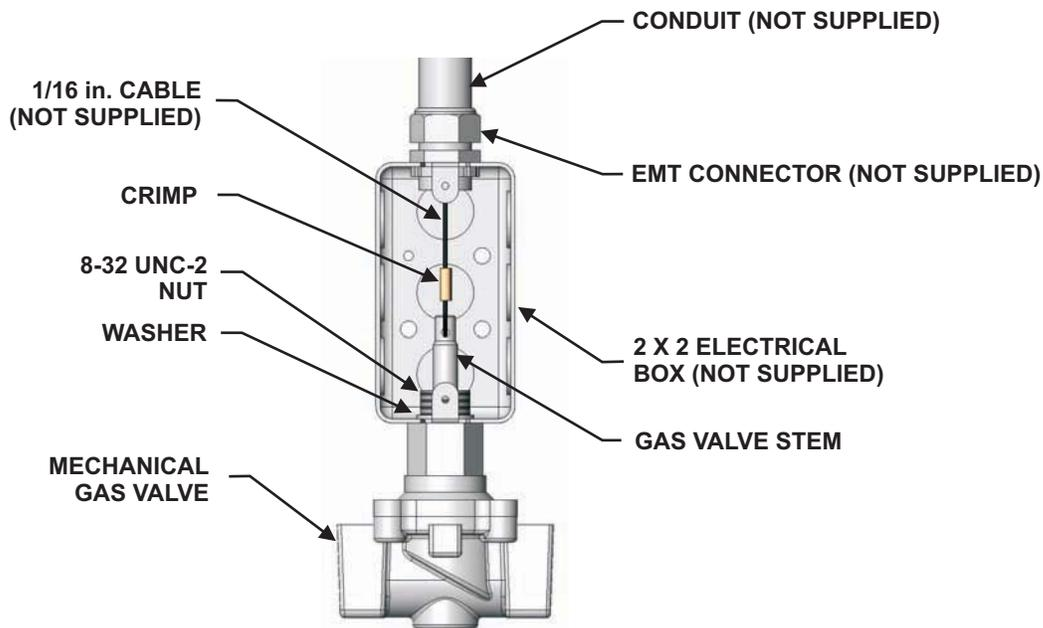

Figure 4-46. Installing Mechanical Gas Valve
2. Remove top and bottom knockouts from the 2x2 electrical box. Install 1/2-inch (13 mm) EMT to top hole of the electrical box (see Figure 4-46).